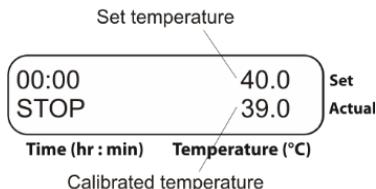

Figure 4. Display after calibration
6.4.8. The display will show calibrated temperature as shown on fig. 4/1 and the unit will continue thermal stabilization according to the previously set temperature.